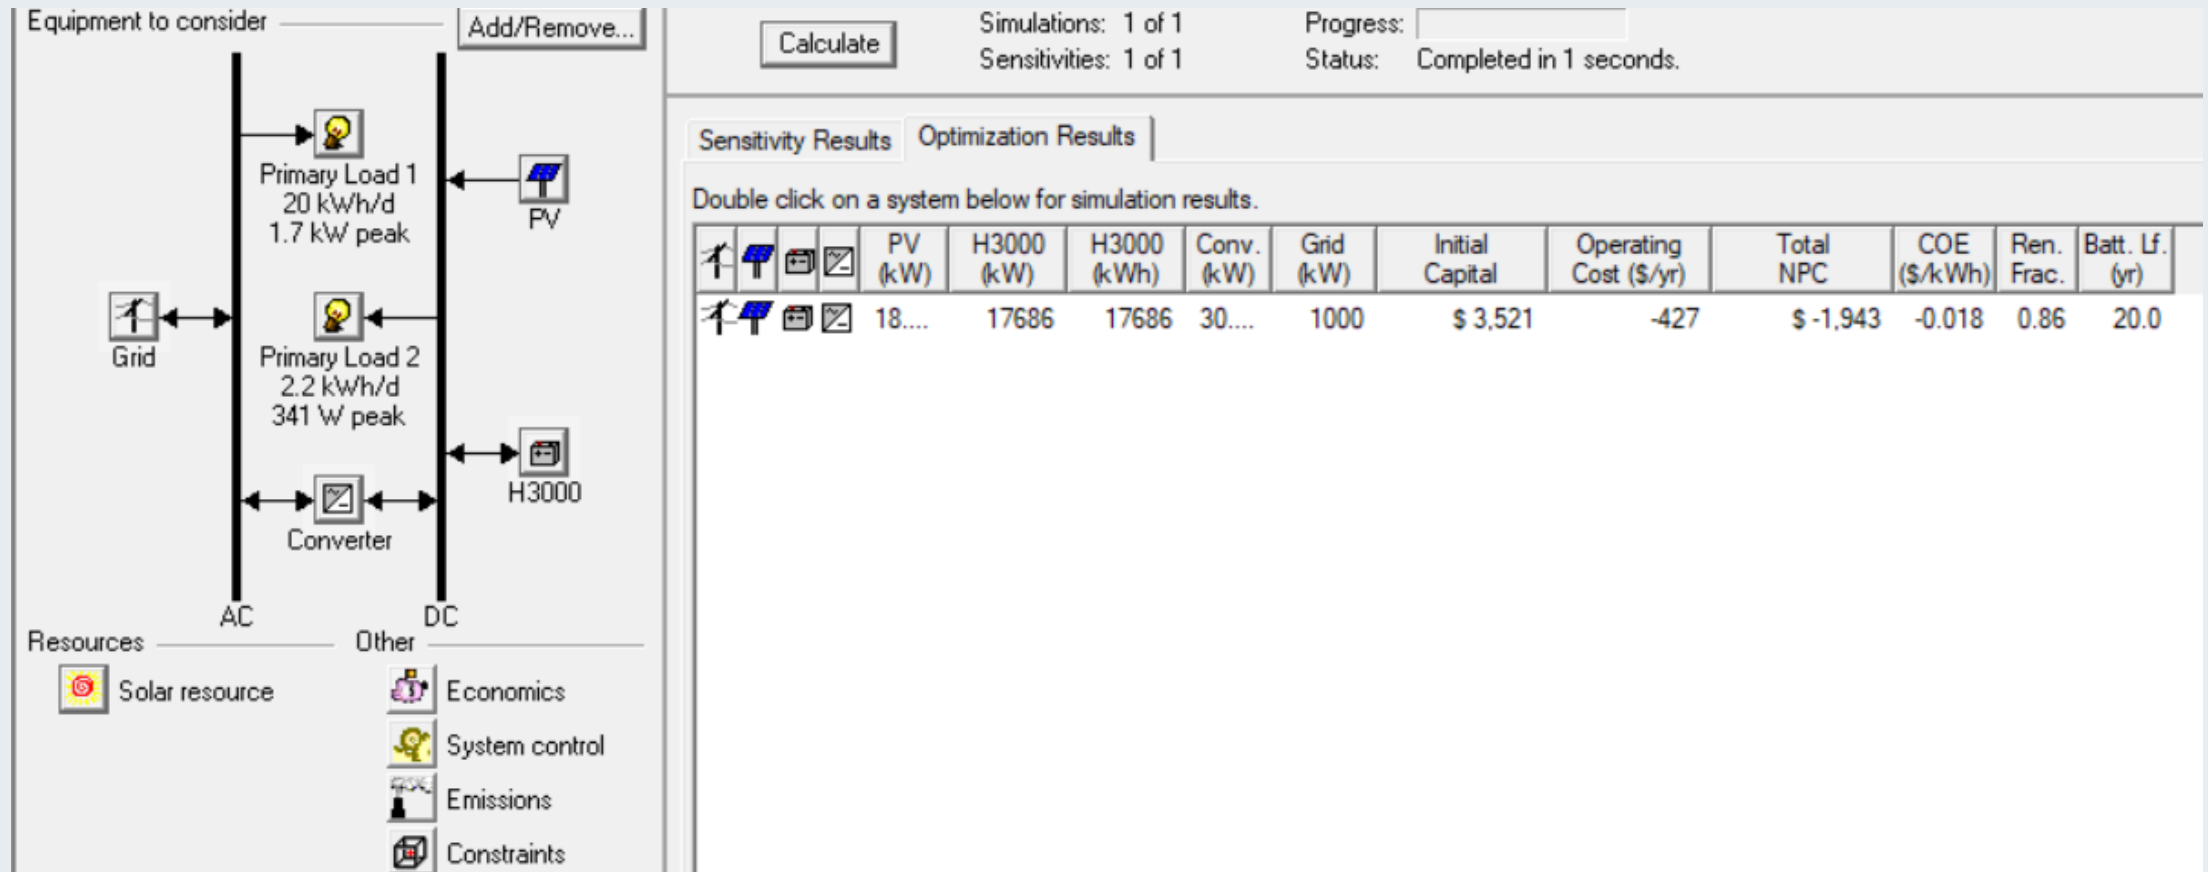

Figure 16. grid connected PV system model
- The model of Grid-connected PV system for selected system is presented in Fig.16